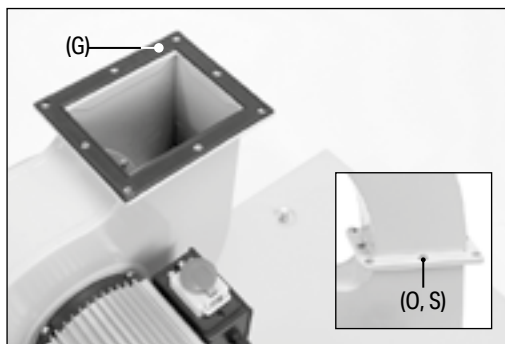

Fig. 4
4. Attach the extraction chute (H) to the ducting unit (Fig. 4):
- a. Place a gasket (G), ridged side up, and the extraction chute onto the square opening so that the holes align.
- b. Pass eight M8 x 16mm bolts (O) each through a washer (Q) and down through the assembly, then tighten them securely.